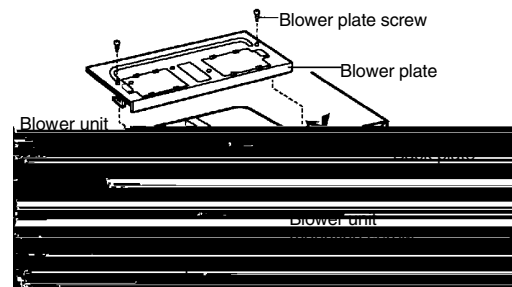

Figure 17
7. Reattach the blower plate to cabinet so the exhaust ports and blower plate opening are aligned. Attach with one blower unit mounting screw and then one or two blower plate screw(s). See Figure 17.